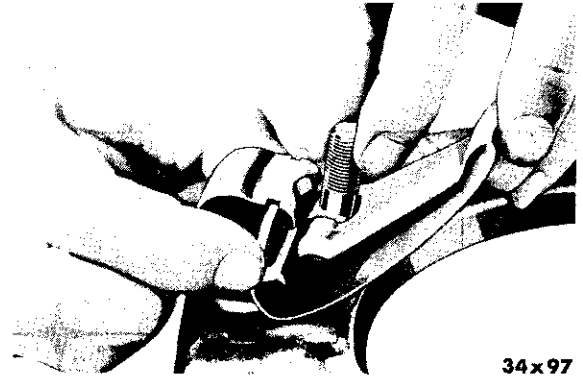

Fig. 4—Removing or Installing Release Lever
(5) To remove the levers (Fig. 4), grasp the eye-bolt between the thumb and index finger to hold it up against the lever while the other fingers raise the lever up. With the other hand, lift the strut over the ridge on the end of lever. Lift the lever and eye bolt off the pressure plate and remove the strut.
(1) Assemble the eye bolt, cross pin and release lever. Hold the threaded end of the eye bolt between the thumb and index finger.
(2) With the other hand, hold the strut in the slot in the pressure plate lug (Fig. 4).
(3) Insert the eye bolt in the hole in the pressure plate and position the release lever under the strut so that the strut can be positioned in the groove in the lever.
(4) Install the other levers in the same manner.
(5) Place the pressure plate on the clutch fixture Tool C-585A with the levers over the fixture feeler blades.
(6) Place the pressure springs on the pressure plate in the following order: Painted (white) next to release spring levers followed by two unpainted springs. There is no spring in the fourth cavity.
(7) Place the rollers in position on the pressure plate.
(8) Place the cover over the rollers and springs, with the aligning mark on the cover over the marked lug of the pressure plate.
(9) Install the three-legged spider over the center screw with the legs contacting the cover midway between the eye bolt holes.
(10) Install the thrust washer and compression nut. While tightening the nut, guide the eye bolts